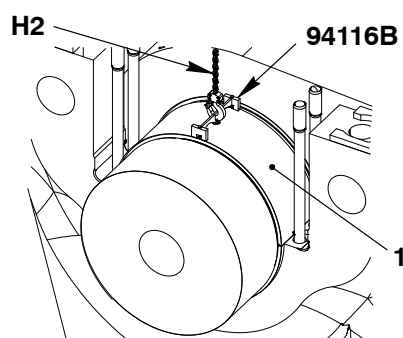
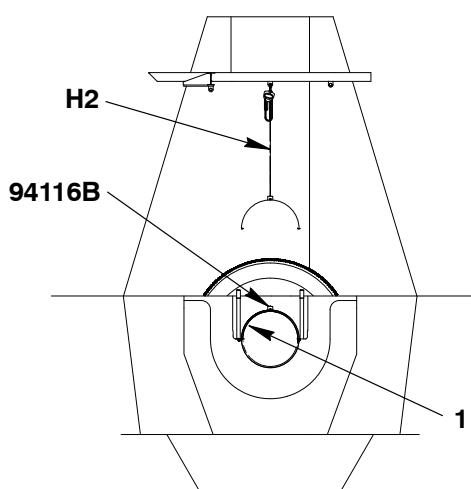

Fig. 16
Fig. 17
**Note:** If the bearing shell (1) does not move, the lifting plate (94119, Fig. 16) must be attached to the other side of the dismantling tool (94118A). The bearing shell must be moved back to its initial condition and you must do the removal procedure done again.
- 8) Remove the bearing shell (1, Fig. 16) out as shown in Fig. 17.
10) Install the lifting tool (94116B) to the bearing shell (1).